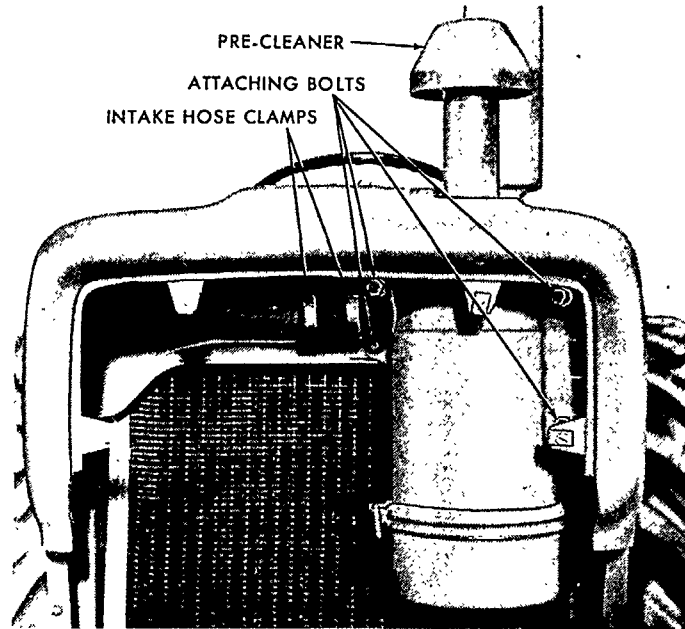

Figure 22
1. Remove the pre-cleaner assembly, Figure 22.
1. Hold the air cleaner in position at the radiator shroud and install the four bolts, Figure 22.